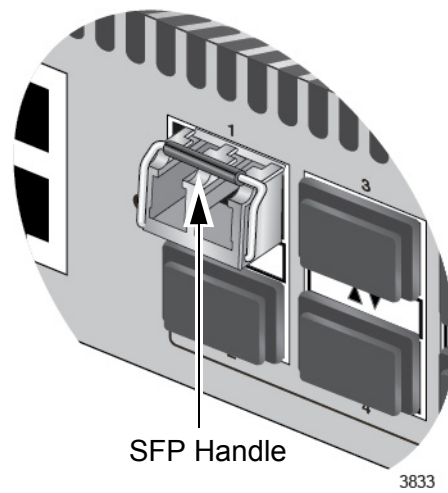

Figure 37. Positioning the SFP Handle in the Upright Position
6. Verify the position of the handle on the transceiver. If the transceiver is in a top slot, the handle should be in the upright position, as shown in Figure 37 on page 77. If the transceiver is in a bottom slot, the handle should be in the down position.